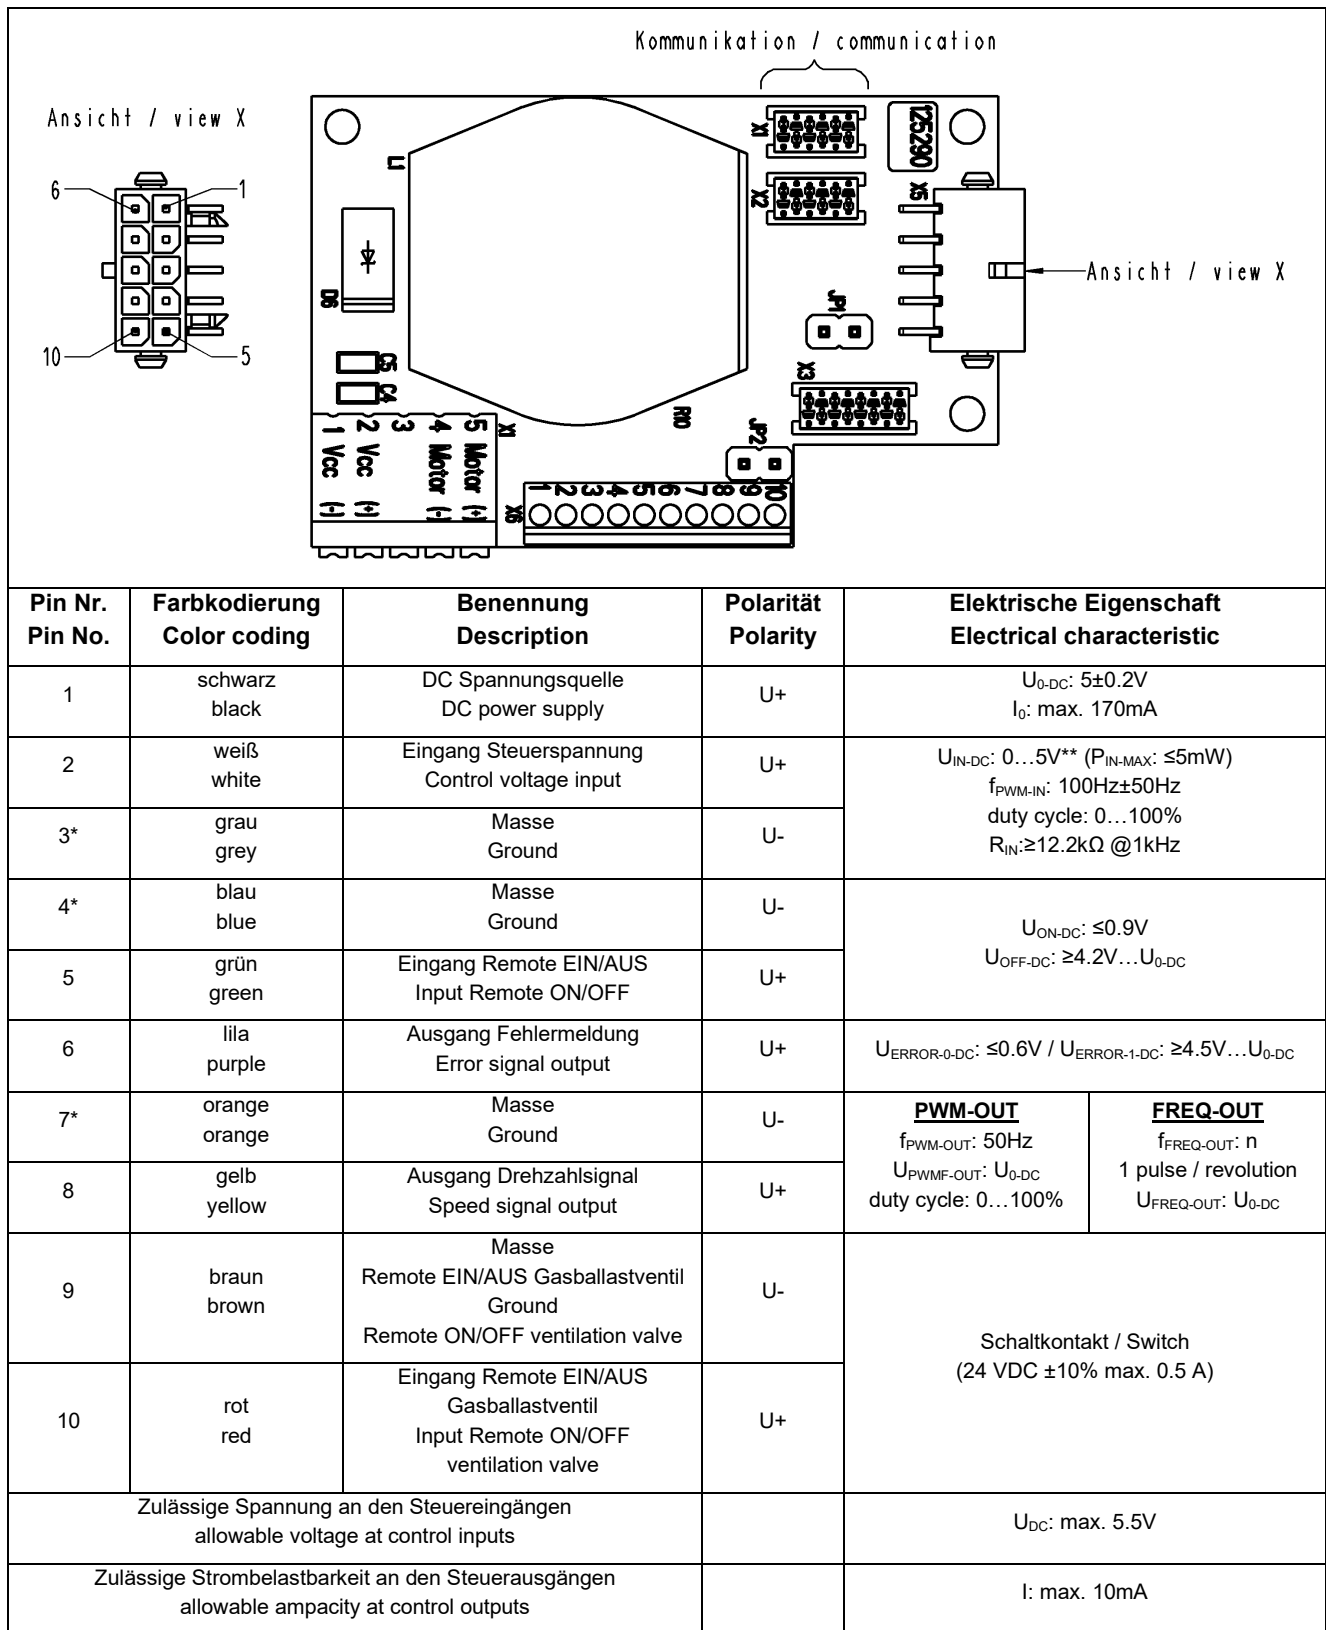

Fig. 6: Control cable pin assignments
- Control cable pin assignments, see Fig. 6, page 16
Speed is specified through the 10-pin controller connection, Pin 2 (see Table in Fig. 6).
Speed is outputted through the 10-pin controller connection (Pin 8, see Table in Fig. 6).
Remote ON/OFF is through an 10-pin controller connection (Pin 5, see Fig. 6).
External activation is through the 6-pin communication connection (see Fig. 6 above).
Connection communication plug (see Fig. 6 top)